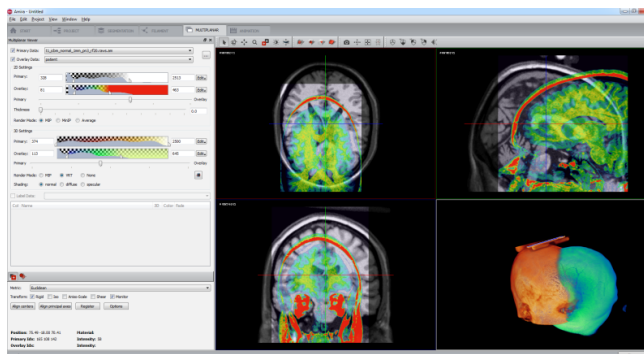

Figure 13.2: Screen shot of the Multiplanar Viewer showing reference and patient data in image fusion.
- Set up the reference image as *Primary Data* and the patient image as *Overlay Data*. In the *2D Settings* panel use the *grayScale* colormap for the primary and *physics.icol* for the secondary data, in the *3D Settings* panel use the *Glow.am* and *volrenGreen.col* colormaps, respectively. For min/max settings and rendering types refer to Fig. 13.2.